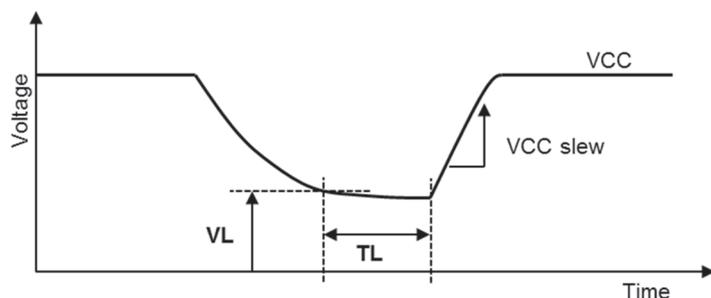
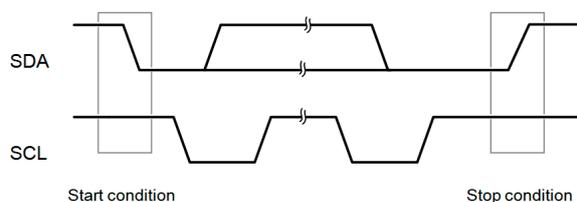

Figure 9: Power On/Off Sequence for proper operation.
Figure 10: Definition of I²C Start and Stop Conditions
Table 9: Power On/Off Timing specifications. Entities are displayed in Figure 9
I²C communication can be initiated by sending a START condition from the master, a high-to-low transition on the SDA line while the SCL is high. A Stop condition, a low-to-high transition on the SDA line while the SCL input is high, is sent by the master (see Figure 10).
No hold master mode allows for processing other I²C communication tasks on a bus while the sensor is measuring. A communication sequence of the two modes is displayed in Figure 9 and Figure 10, respectively.
In no hold master mode, the MCU has to poll for the termination of the internal processing of the sensor. This is done by sending a Start condition followed by the I²C header (10000001) as shown in Figure 10.
In the examples given in Figure 9 and Figure 10 the sensor output is DRH = '0110'0011'0101'0000'. For the calculation of physical values Status Bits must be set to '0' – see Chapter 5.
Please note: I²C communication allows for repeated Start conditions (S) without closing prior sequence with Stop condition (P) – compare Figures 9, 10 and 12. Still, any sequence with adjacent Start condition may alternatively be closed with a Stop condition.
In the example of Figure 9 and Figure 10, the transferred 16 bit relative humidity data is ‘0110001101010000’ = 25424.
In the example given in Figure 9 and Figure 10 the relative humidity results to be 42.5 % RH.